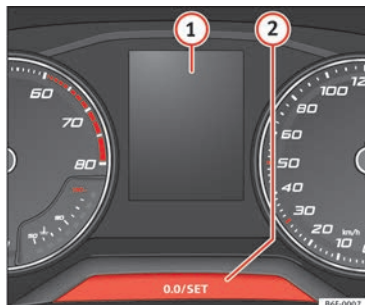

Fig. 48 Instrument panel
The service interval indication appears on the instrument panel display » Fig. 48 ①.